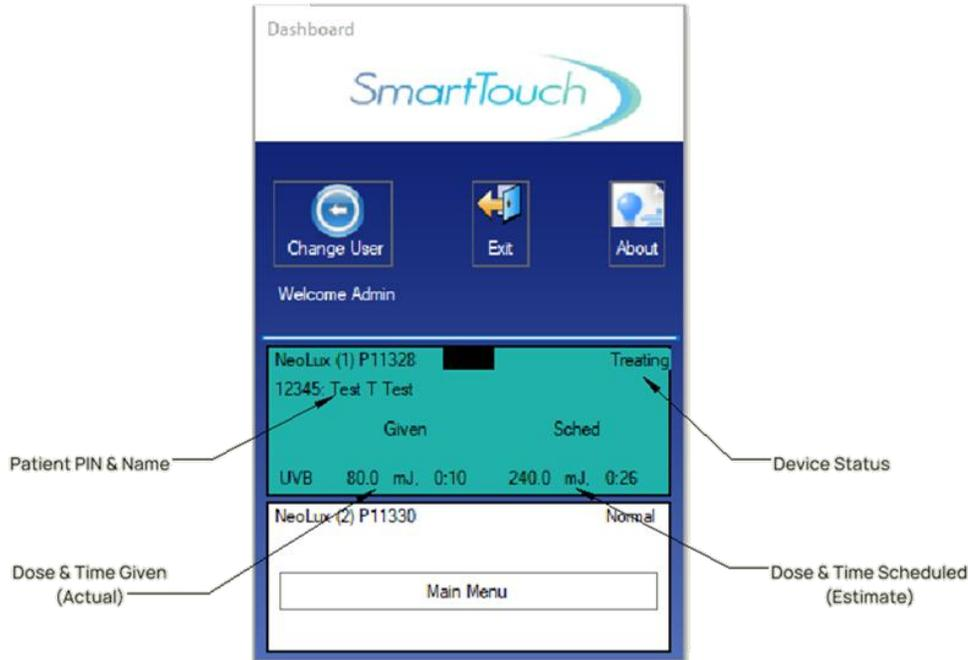

Figure 19 Dashboard Treatment in Process Display
- Treatment can also be monitored using the Dashboard (See Figure 19). The treatment information in the dashboard will be displayed independent of which device is 'active' in the Main Window. This will allow for all instances to be monitored at the same time.